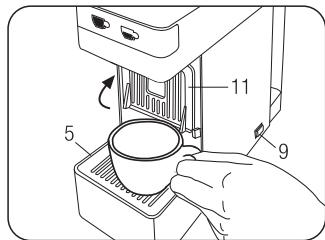
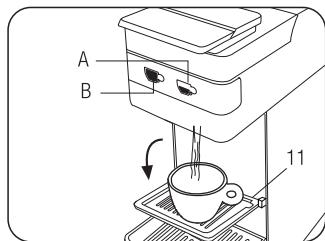

Fig. 5
Fig. 6
- Ensure that there are no capsules inside; power on the machine via the main switch(on the back) (9)
- Place a large empty cup under the coffee spout.(**Fig. 5**)
When the buttons (A) and (B) appear with a fixed light the machine is ready for use. Press a button (A) or (B); the machine dispenses water, press the button again when you have obtained the desired amount of water (**Fig. 6**). The machine has been rinsed once at least three cups of water have been made.
To make an espresso using button (A) (small cup), place the rack (11) as in Fig.6. When tall cups are needed, place the rack (11) as in Fig.5, and place the cup directly on the rack (5) (Fig.5)